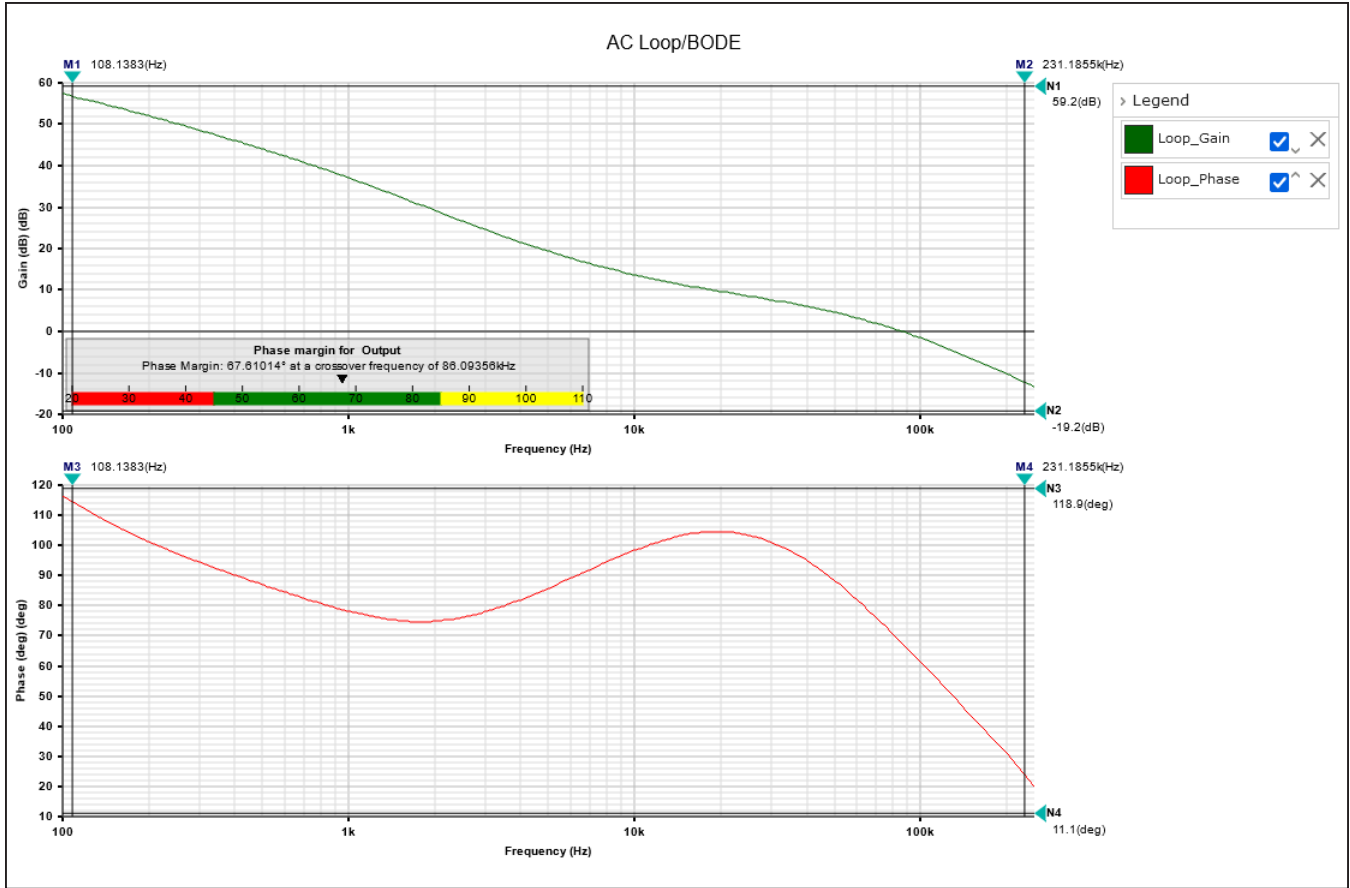

Figure 4. AC Loop Simulation using EE-SIM tool.
- 7) To get the pole-zero order as mentioned in the previous comment and based on the AC Loop simulation in EE-SIM shown in Figure 4, compensation components are selected as  $R_4 = 16.9k\Omega \pm 1\%$ ,  $C_4 = 3300pF$  and  $C_7 = 150pF$ .